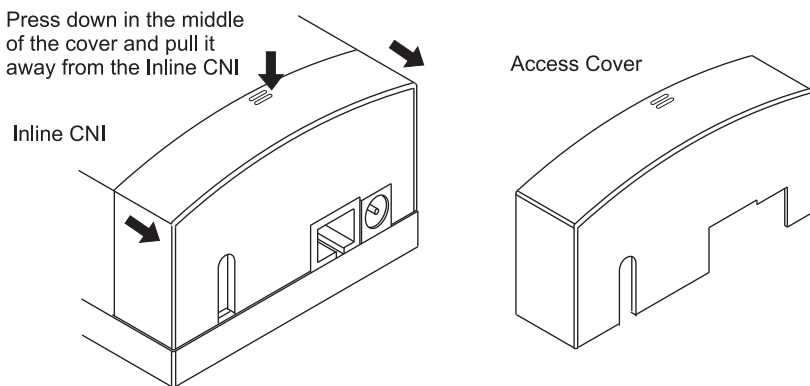

Figure 8. Removing the Access Cover
1. Open the cable access door on the CNI unit. See Figure 8.